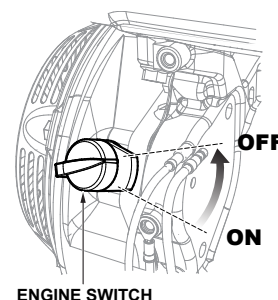

Figure 19. Engine ON/OFF Switch (OFF)
2. After the engine cools, turn the engine **ON/OFF** switch to the **OFF** position (See Figure 19).